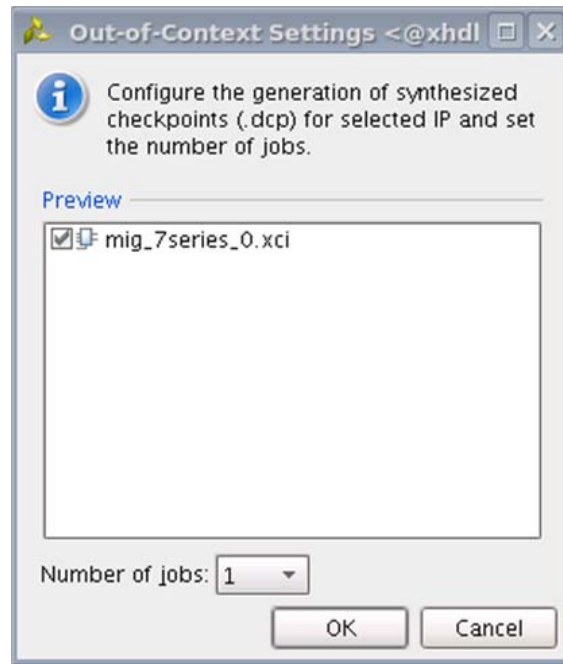

Figure 3-26: **Out-of-Context Settings Window**
2. Click **Out-of-Context Settings** to configure generation of synthesized checkpoints. To enable the **Out-of-Context** flow, enable the check box. To disable the **Out-of-Context** flow, disable the check box. The default option is "enable" as shown in Figure 3-26.